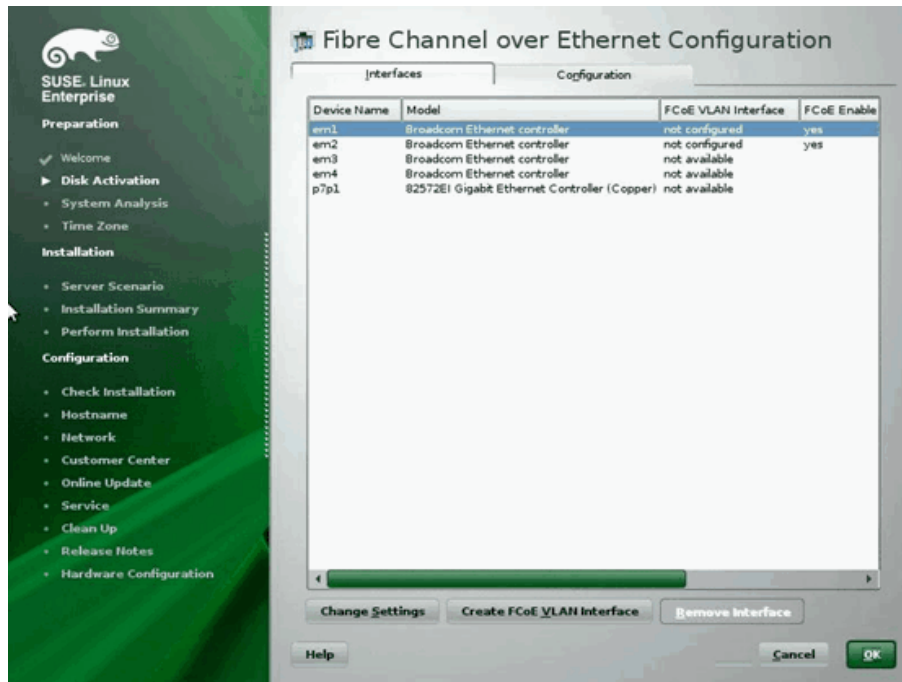

Figure 13-15. Enabling FCoE
5. Ensure that **FCoE Enable** is set to **yes** on the 10GbE Marvell initiator ports that you want to use as the SAN boot paths (Figure 13-15).